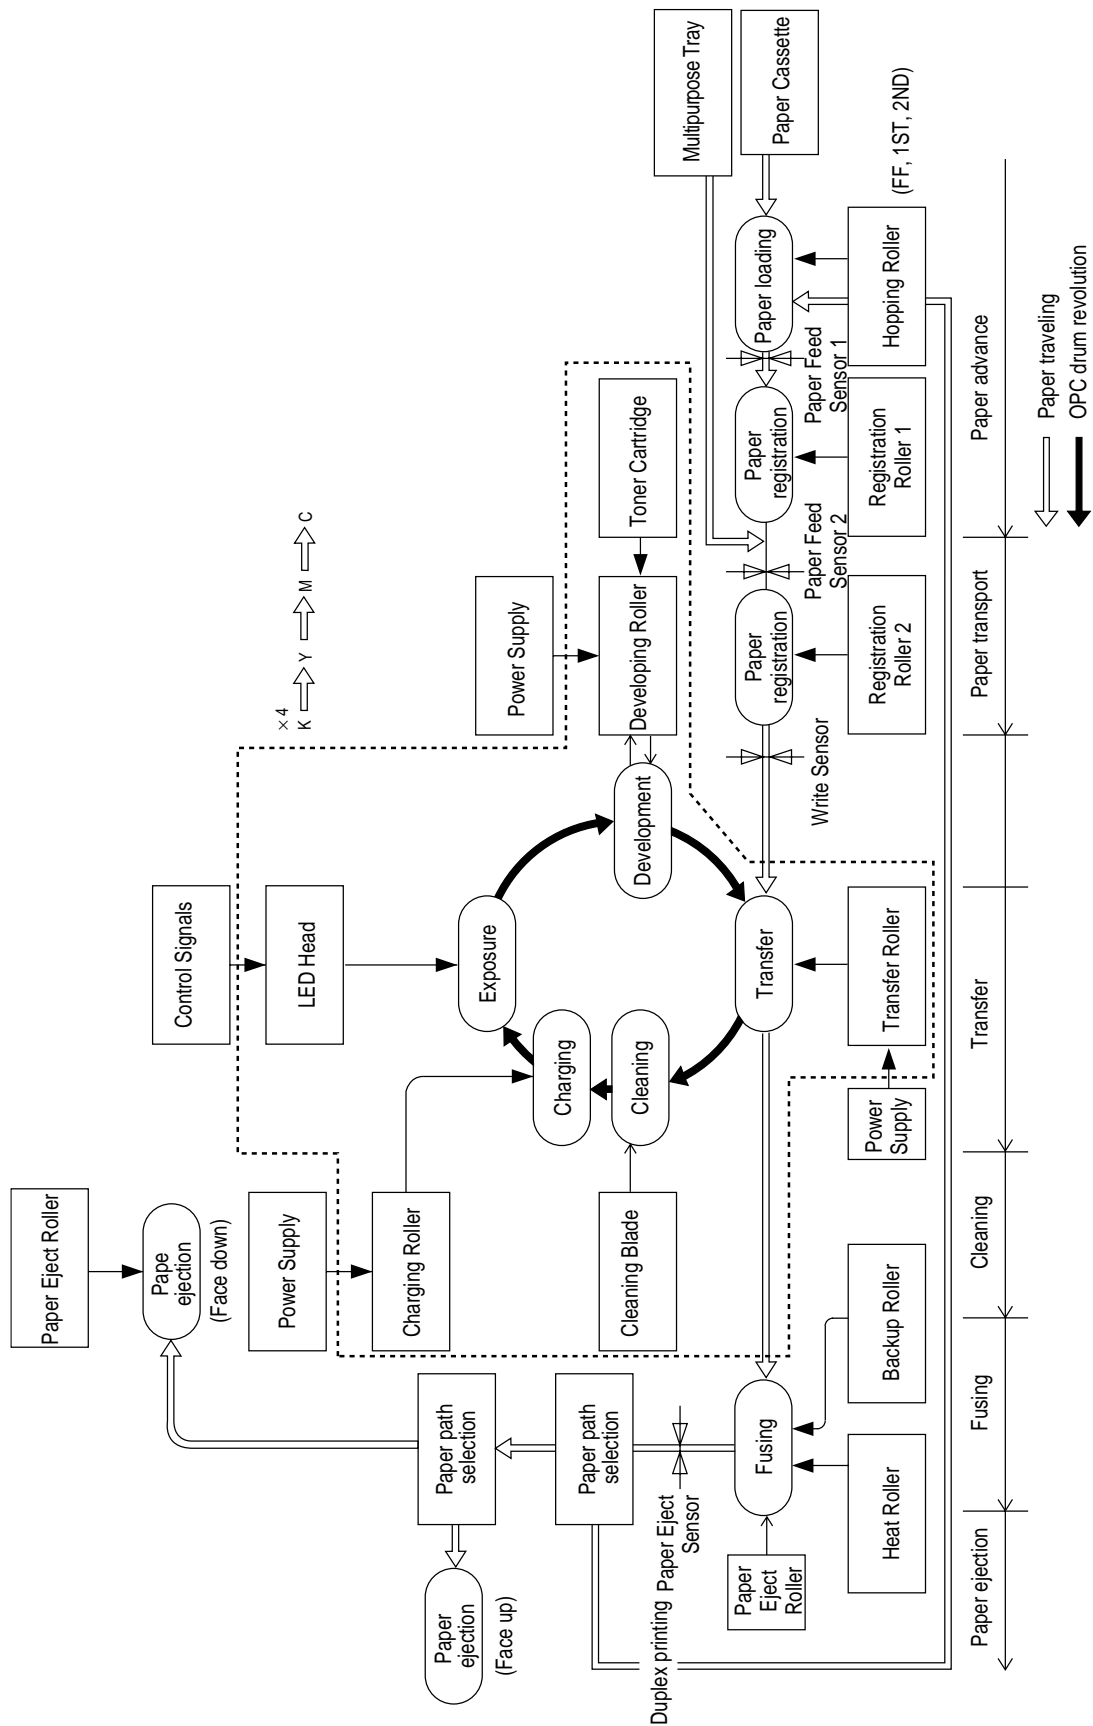

Figure 2-4
The engine control block (PU) is controlled by the engine controller board (K71 PWB) which consists of a CPU (MSM66Q577), general LSI chip, flash ROM, EEPROM, pulse motor drivers and a video memory (see Figure 2-4).
- (1) CPU
Figure 2-4 shows the mechanical processes of the C7000 Series of printers.